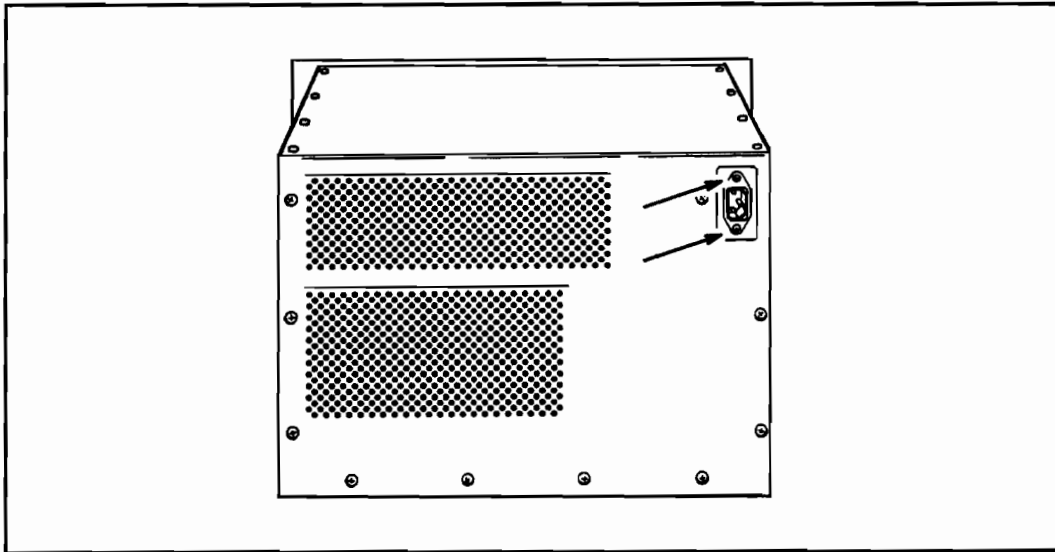

Figure 6-105. Receptacle Removal
7. Using a 1 pt. Pozidriv screwdriver, remove the two receptacle mounting screws. See Figure 6-105.